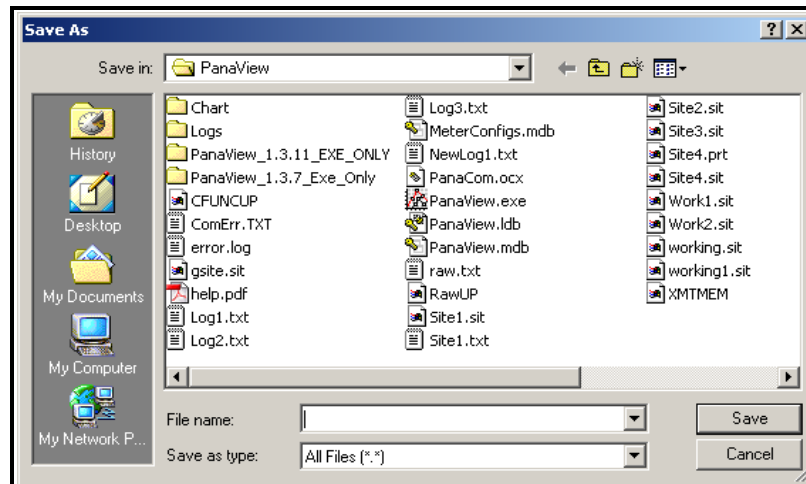

Figure 13: Saving Signal Array Data to File
- If you double-click on *To File*, another window opens similar to Figure 13. Enter a file name and click [Save]. PanaView stores the array data in a Windows file, and closes the *Calibration/Test* window.
- If you double-click on *To File*, the *Save As* window (similar to Figure 13 on page 50) opens. Enter a file name and click [Save]. PanaView stores the array data in a Windows file, and closes the *Calibration/Test* window.